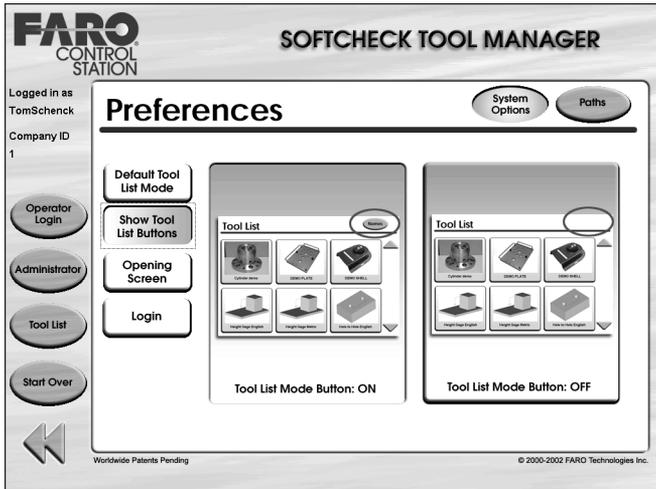

Figure 3-3 Show Tool List Buttons
- SHOW TOOL LIST BUTTONS allows you to display or hide the TOOL LIST button, which is in the upper, right-hand corner of the Tool List. See Figure 3-3, "Show Tool List Buttons."